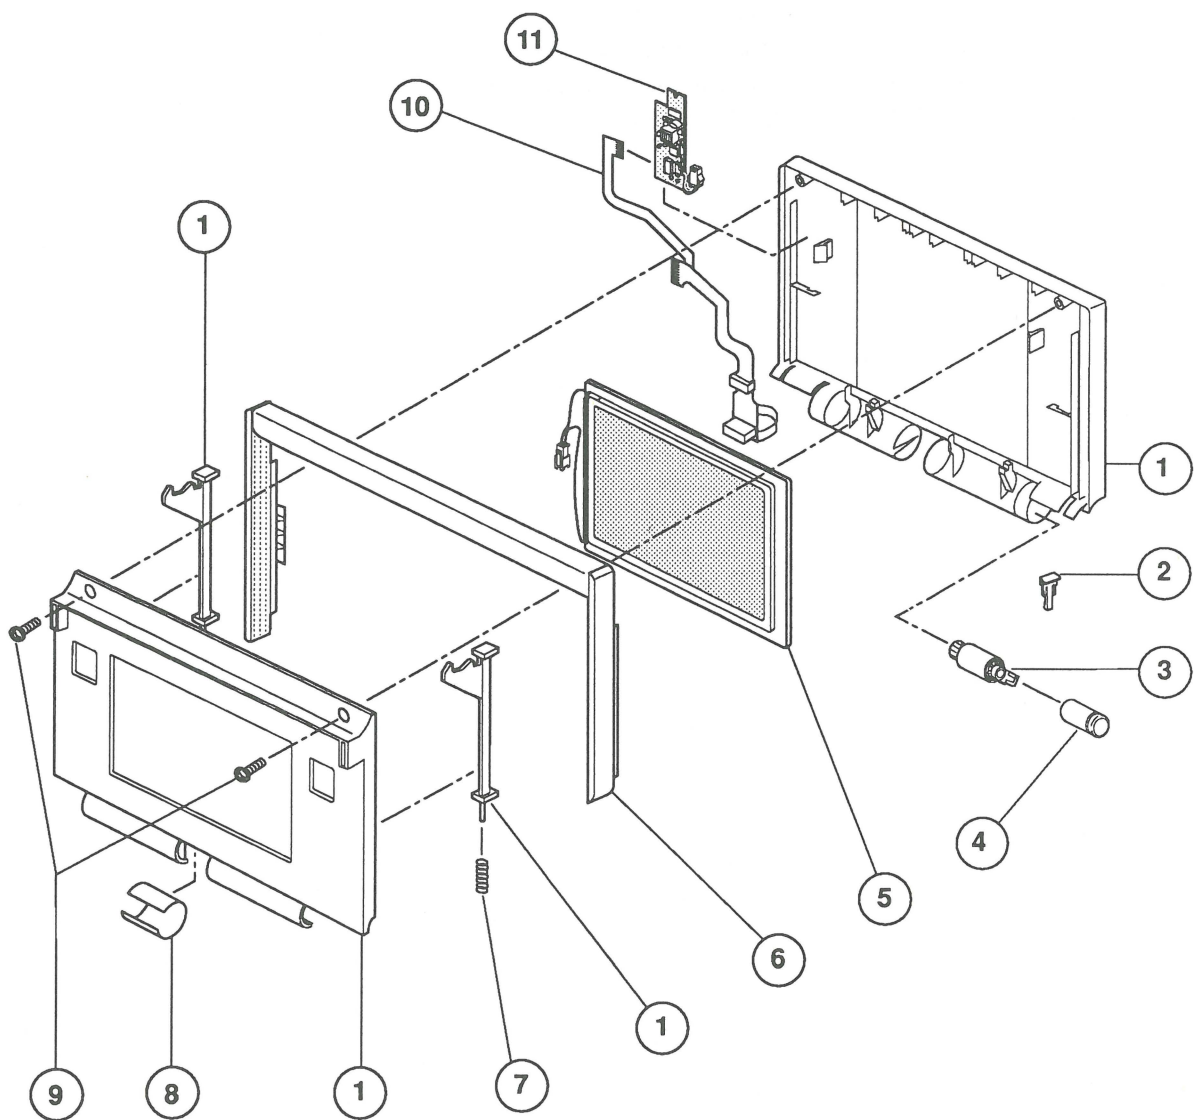

FIGURE 3
- IPL.7 Backlit Display Assembly (Figure 3)
❑ BACKLIT DISPLAY ASSEMBLY (Figure 3)